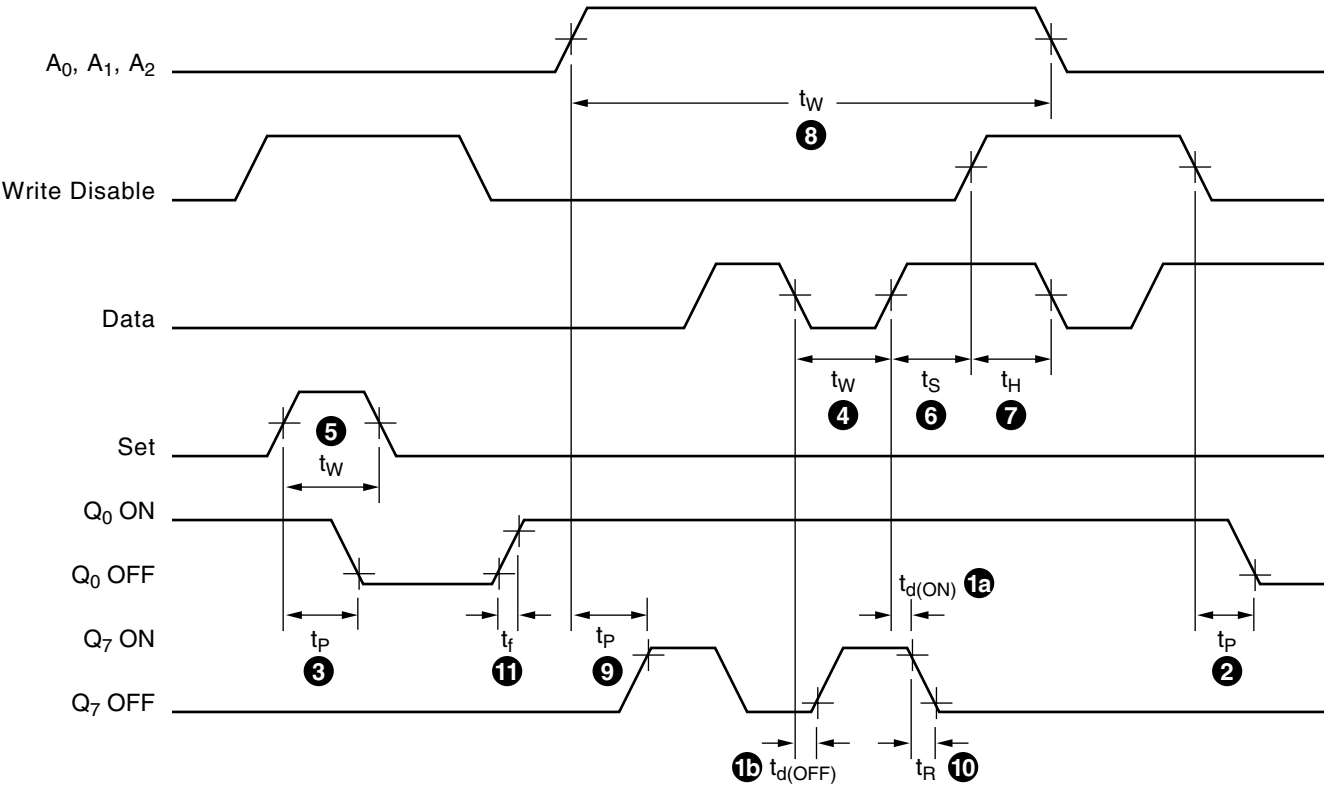

Figure 1
*Refer to circled numbers on Timing Diagram (Figure 1).